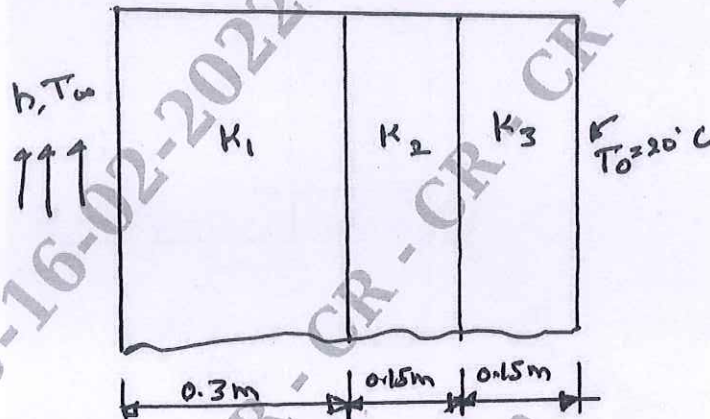

Fig.Q7(b)
b. A composite wall consists of three materials as shown in Fig.Q7(b). The outer temperature is $T_0 = 20^\circ\text{C}$. Convection heat transfer takes place on the inner surface of the wall with $T_\infty = 800^\circ\text{C}$ and $h = 25 \text{ W/m}^2\text{C}$. Determine the temperature distribution in the wall. Take $K_1 = 20 \text{ W/m}^\circ\text{C}$, $K_2 = 30 \text{ W/m}^\circ\text{C}$, $K_3 = 50 \text{ W/m}^\circ\text{C}$.